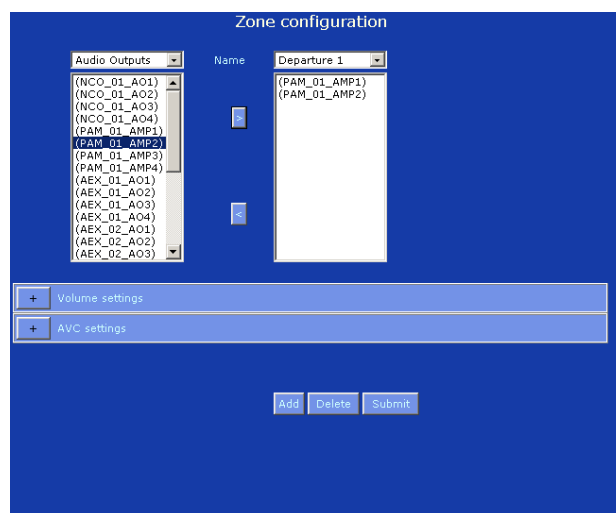

figure 36.3: Add zone, step 1
- 1 Go to *Configure > Zone & amplifier > Zone configuration*. A screen similar to the one in figure 36.3 appears in the main frame of the web interface.